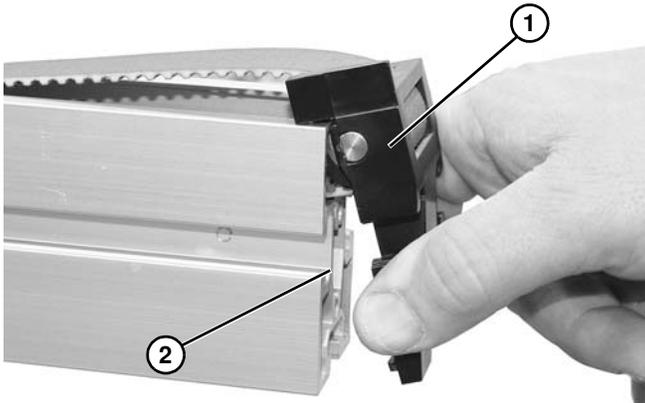

Figure 14
- Remove the end cap (**Figure 14, item 1**) from the conveyor (**Figure 14, item 2**) on both ends.